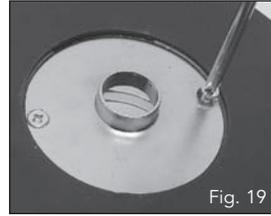

Fig. 19
4. Secure the template guide (10) using the two fixing screws that you just removed by rotating them clockwise (Fig.19).